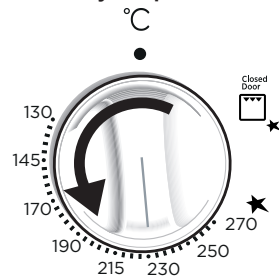

Fig. 2.2
The numbers printed on the control panel or on the knob (fig. 2.2) indicate the increasing oven temperature value (see table below). To regulate the temperature, set the knob to the chosen number. The "FAN ASSISTED GAS OVEN" column refers to the oven burner used in combination with the fan motor (forced convection cooking: only for the "fan assisted" models - models having also the position  or ), while the "GAS OVEN" column refers to the oven burner used in the normal convection mode (without fan motor). The ★ symbol close to the maximum position indicates that the electric ignition is incorporated into the knob (activated by the knob itself).
- 2 – Lightly press and turn the thermostat knob anti-clockwise to the maximum position ★ (fig. 2.2). Press the knob firmly until the burner lights.